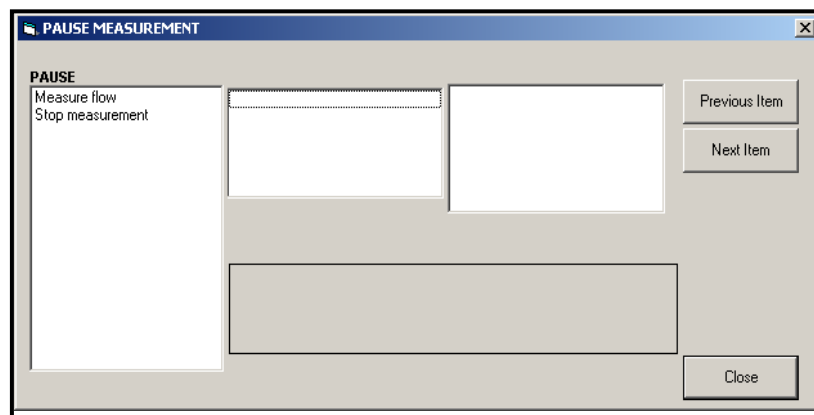

Figure 21: The *Pause Measurement* Window
2. Expand the *Edit Functions* option, and double-click on the *Pause Measurement* entry. A window opens similar to *Figure 21*.